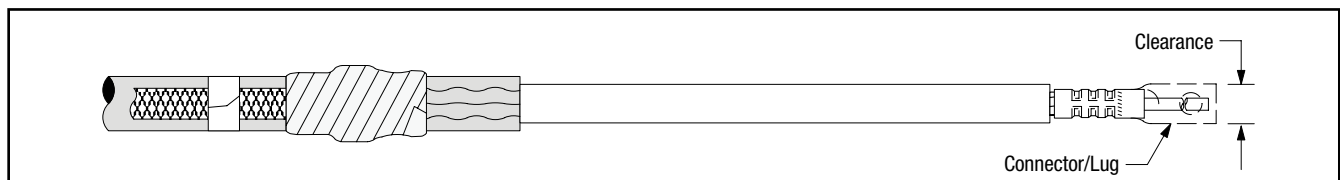

Figure 23
13.1 Check to insure 3M™ Cold Shrink QT-III Silicone Rubber Termination assembly fits over the selected lug or connector. If lug or connector (*Figure 23*) will not fit through the termination core, clean the insulation (per Step 14.0) and slide termination on cable before installing lug or connector.